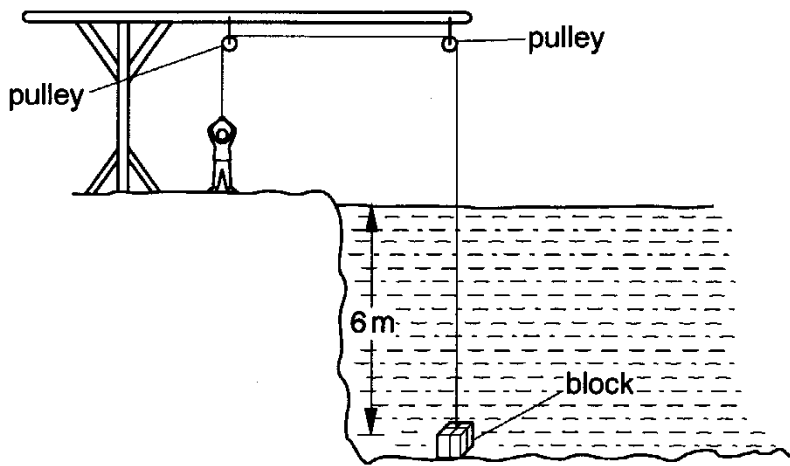

Fig. 8
Fig. 8 shows a person raising a concrete block from a river bed by using two pulleys.
- (a)** As shown in Fig. 8, the top of the block is 6.0 m below the water surface. The density of water is 1000 kg/m^3 and the acceleration of free fall is 10 m/s^2 .
- (d)** Some of the energy the person uses to raise the block is converted into heat energy. Indicate on the Fig. 8, using an arrow and the letter H, two places where heat is released. For each place, explain why heat is released there.